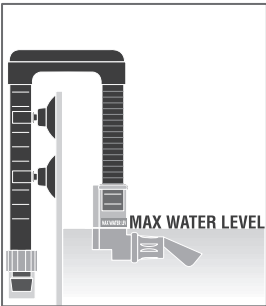

fig 4
- Adjust the maximum height of the outlet unit as indicated by "MAX. WATER LEVEL" and cut off any excess tubing -Fig. 4-. Both the connector tubes must be fixed to the walls of the tank by means of the suction cups provided.